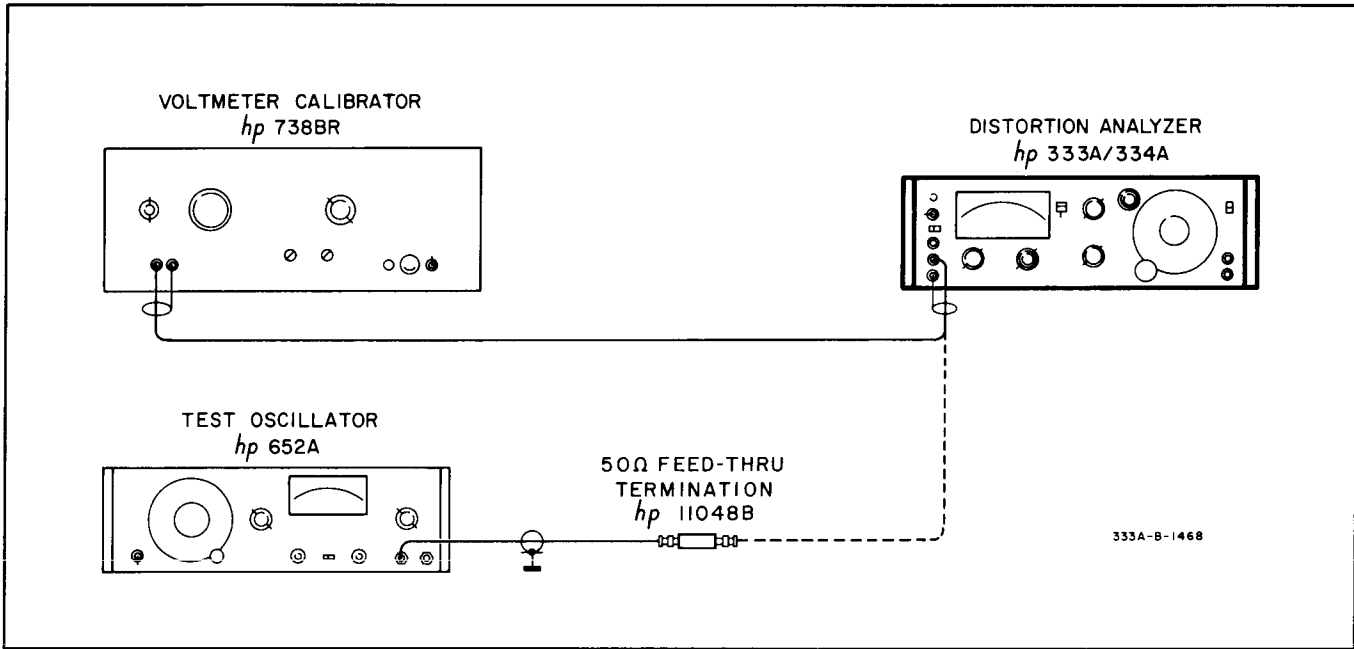

Figure 5-6. Voltmeter Accuracy and Frequency Response Check
- a. Connect voltmeter calibrator to 333A/334A as shown in Figure 5-6. Test oscillator will be used later in check.
- a. Connect voltmeter calibrator to 333A/334A as shown in Figure 5-6.